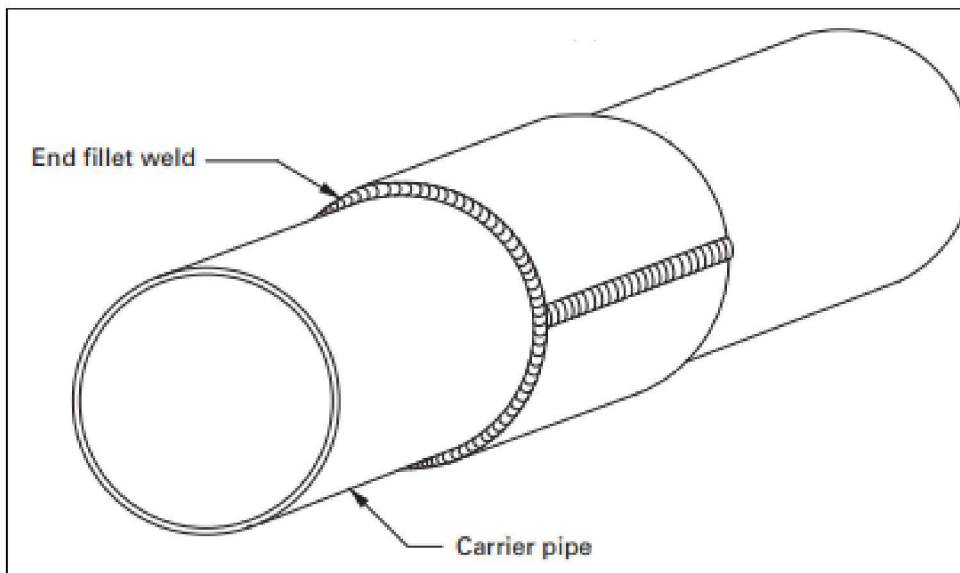
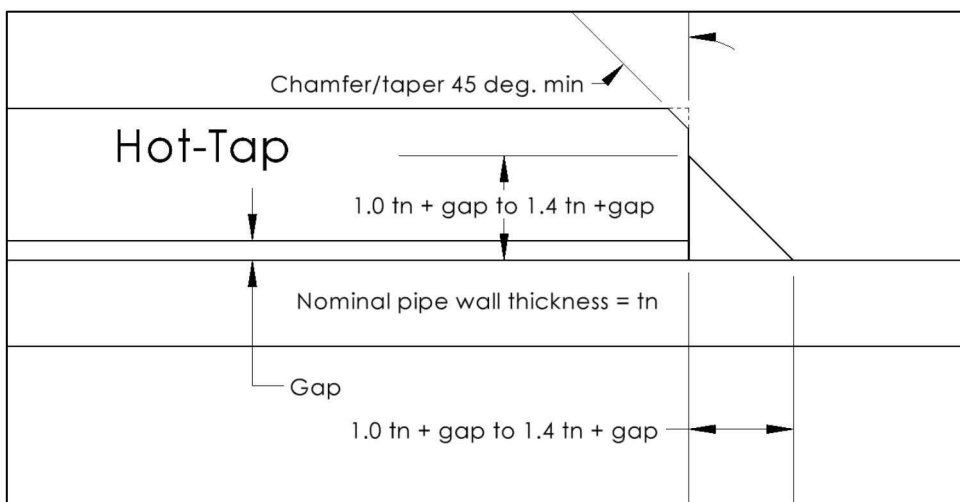

Figure 5
Figure 6
using Ultrasonic testing equipment. This assumes a 1.0 joint efficiency. A different joint efficiency may be used based on the level of inspection and engineering analysis. Carefully control the size and shape of the circumferential fillet welds. The size of the fillet weld should be per Figure 6. Strive for a concave faced fillet weld, with streamlined blending into both members; avoid notches and undercuts. The smoother and more streamlined the weld, the greater the resistance to fatigue failure. The worst possible shape would be a heavily reinforced convex weld with an undercut. Improper weld shape can lead to rapid fatigue failure, which can cause leakage, rupture, or an explosion with attendant serious consequences.
5. Weld the circumferential ends to the pipe with fillet welds as shown in Figure 5. The fillet weld size requirements are detailed in Figure 6.